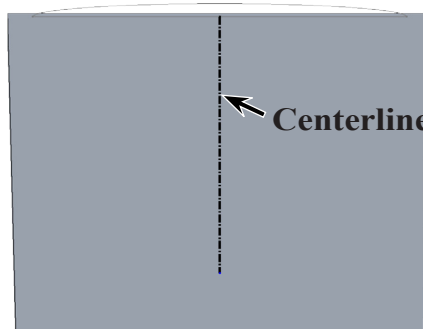
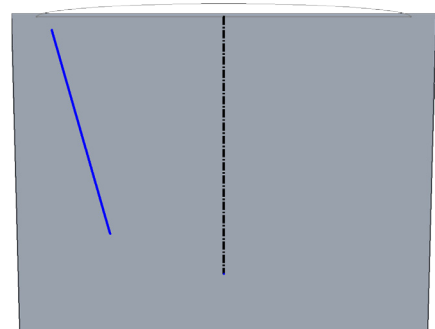

Fig. 32
Fig. 33
Step 5. Click **Centerline**  (S) in the **Line flyout**  on the Sketch toolbar.
Step 6. Starting from midpoint of rear edge, sketch a vertical centerline down into the body, Fig. 32.
Step 7. Click **Line**  (L) on the Sketch toolbar.
Step 8. Sketch a line at angle to the left body edge away from any geometry, Fig. 33.